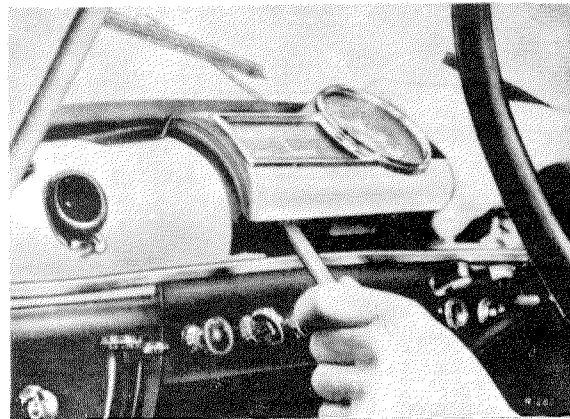

Fig. 54—11/4
7. Remove the instrument cluster carefully, taking care when doing so not to damage the capillary tube of the radiator thermometer, which is pulled out together with the instrument cluster (Fig. 54—11/4).